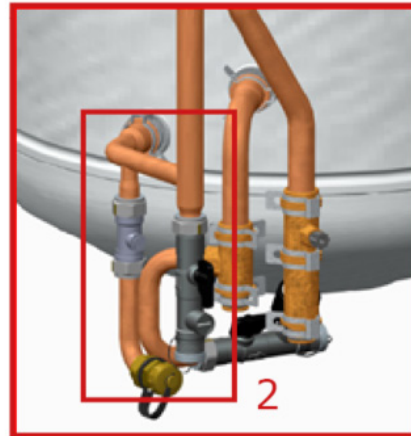

Fig. 27 : Fill DHW Cylinder
1. Connect water supply to Cold Water Inlet Group marked 1 in Fig. 27.
2. Close isolator and drain valve, marked 2 in Fig. 27.